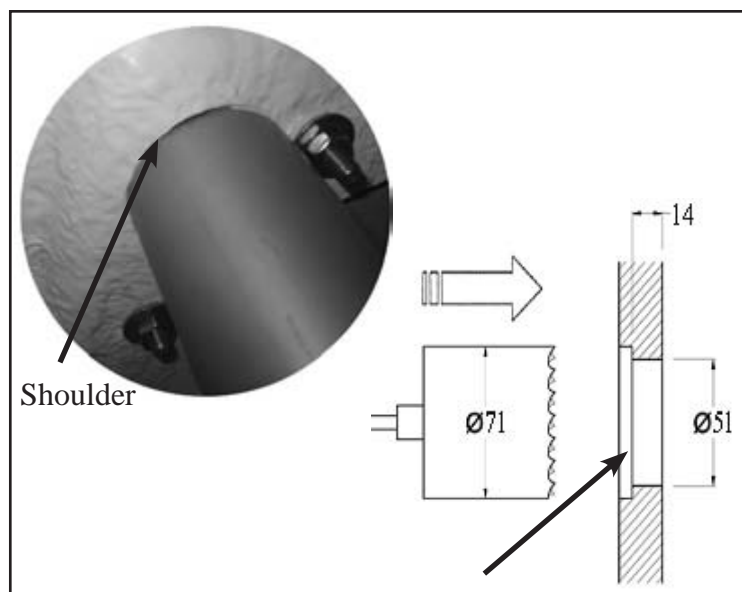

Figure 2.2.3.3-1
1. Make sure that the cylinder goes into place. Check especially the shoulder indicated in figure 2.2.3.3-1, which may touch the stern, causing a mounting fault.
If the stern is more than 14mm thick, an embedding must be made for the cylinder, in which the shoulder in figure 2.2.3.3-1 fits.
2. Spread sealing compound (e.g. Sikaflex 221) on the collar of the hydraulic cylinder and fit the wedge (figure 2.2.3.3-2) in place. Push the cylinder from inside the boat into the appropriate hole. Spread sealing compound also on the outside, on the threading (figure 2.2.3.3-3, A).
The assistant must move the base plate and the tightening nut (figure 2.2.3.3-3, B) farther on the piston rod before the end of the rod can fit into the rearmost hole.